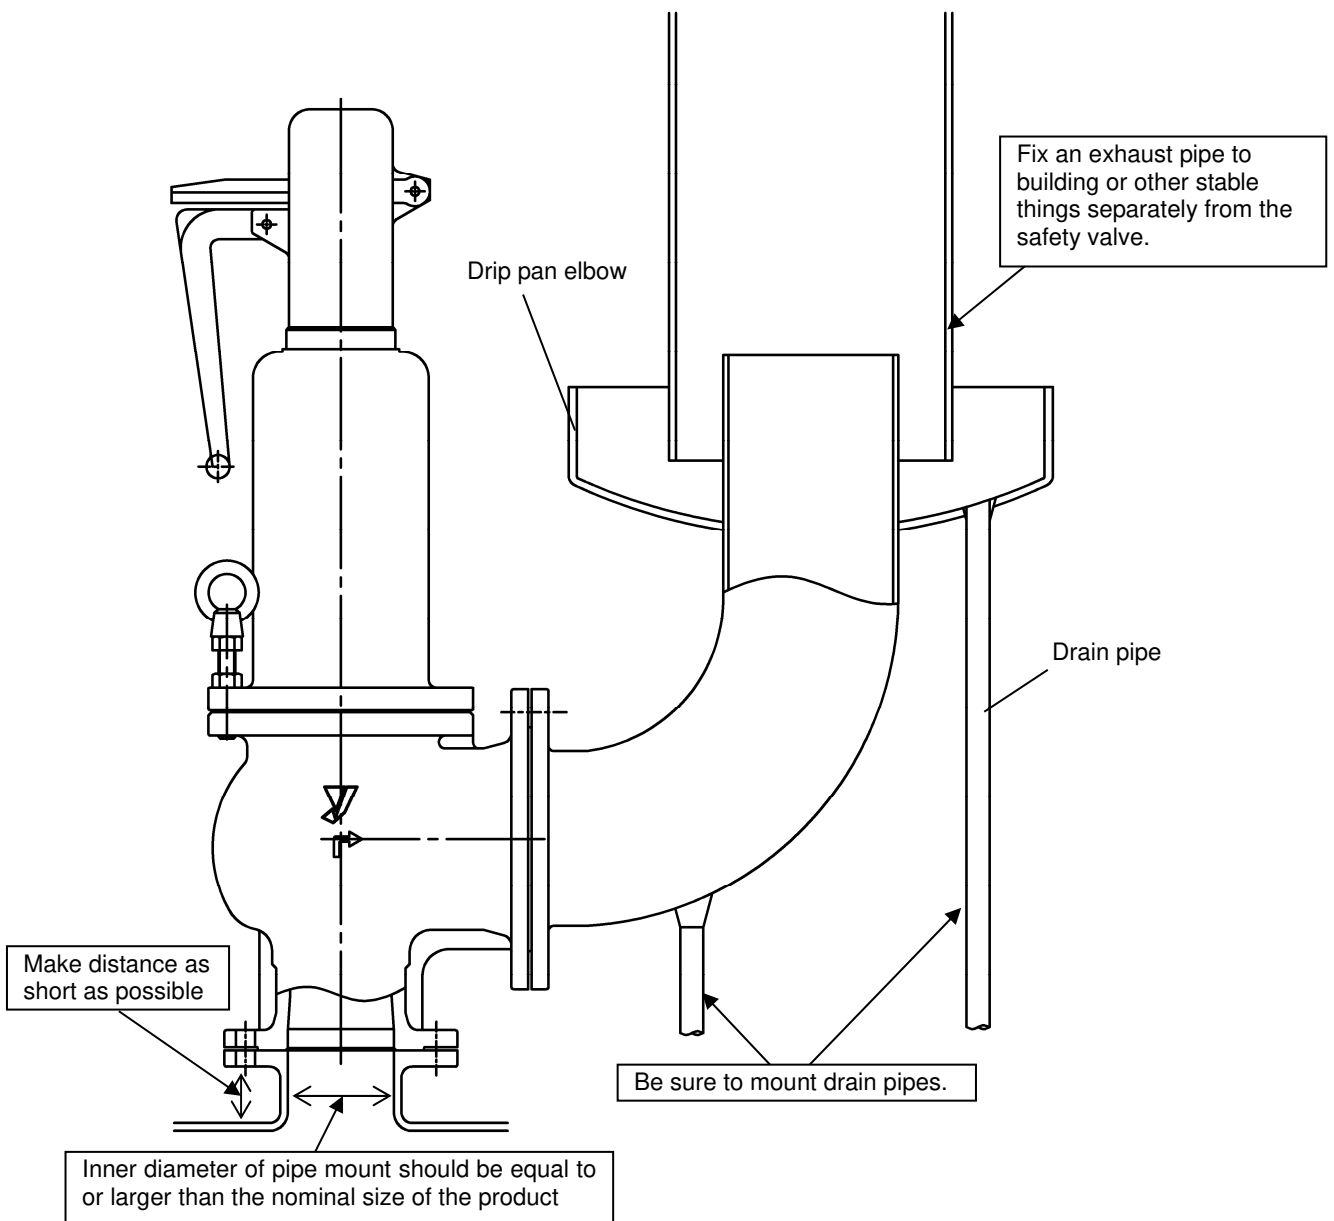

Figure 2 Piping example
6. When hot fluid is applied, install the outlet piping in a way that the product is free from the stress caused by the thermal expansion of the equipment or by the thermal expansion/compression of the discharge pipe. (See Figure 2.)